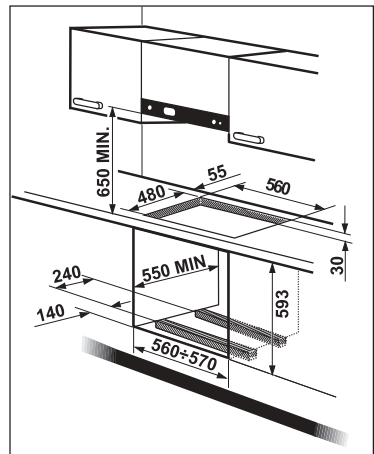

Fig. 5
IMPORTANT - To ensure a correct operation, a savingof energy and the long life of the appliance, the voltage pressure of the appliance must correspond to the recommended values. The adjustable connection is fixed to the comprehensive ramp by means of a threaded nut G 1/2". Interpose the sealing between the components as shown in Fig. 5. Screw the parts
Liquid gas: use the rubber pipe holder «D» (Fig. 5). Always insert the gasket «B». Then proceed with the gas connection. The flexible pipe should be made ready for use in such a way that:
- With a socket spanner 7 unscrew and remove the injectors (Fig. 5), and replace them with the ones required for the type of gas in use (see table 2: Injectors).